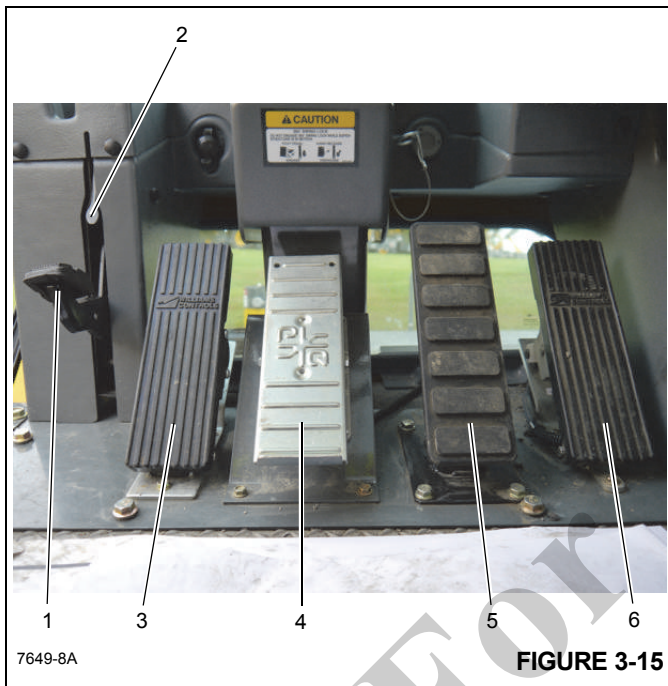

Figure 3-15 Item Numbers
The 360° Swing Lock Pedal (1) (Figure 3-15) is located on the left side of the crane cab floor. The pedal is used to activate the swing lock to prevent the superstructure from turning. To release the swing lock, pull up on the 360° Swing Lock Release Lever (2).
The Swing Brake Pedal (3) (Figure 3-15) is located on the left side of the cab floor. The swing brake pedal is used to actuate the swing brake to slow or stop swing motion. Braking is proportional to pedal depression. With the pedal not depressed and the swing brake control valve disengaged, hydraulic pressure is applied to the brake, overcoming spring pressure and releasing the brake. Depressing the pedal actuates a swing power brake valve to apply pressure to the brake assembly. This pressure aids the
The Telescope Control Pedal (4) (Figure 3-15) is supplied when the crane is equipped with an auxiliary hoist, is located in the middle of the cab floor. Pushing forward on the top of the pedal will extend the boom and pushing down on the bottom of the pedal will retract the boom.
The Service Brake Pedal (5) (Figure 3-15) is the second pedal from the right on the cab floor. Depressing the pedal controls the application of the service brakes.
The Foot Throttle Pedal (6) (Figure 3-15) is located on the right side of the floor. It is used to control engine RPM which increases or decreases proportionately with the amount of foot pressure applied to the pedal. The pedal is electrically connected to the superstructure control module which sends the signal to the engine ECM via the J1939 data link.